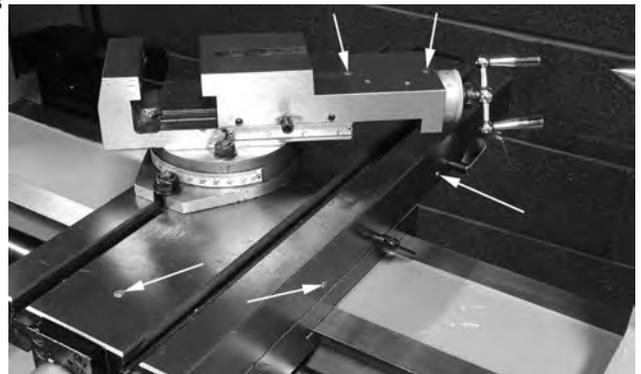

FIGURE 46
**Carriage and Cross Slide:** Apply lubrication directly to the oil ports of the carriage and cross slide. See Fig.46.